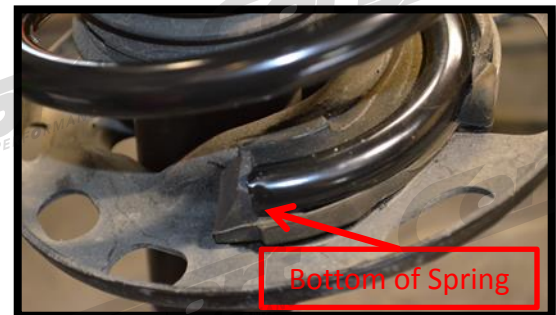

Figure 2k
- l) Make sure the bottom of the spring is seated fully in its perch (Figure 2k).
- l) Make sure the bottom of the spring is seated fully in its perch (Figure 2k). Tighten the spring compressor.